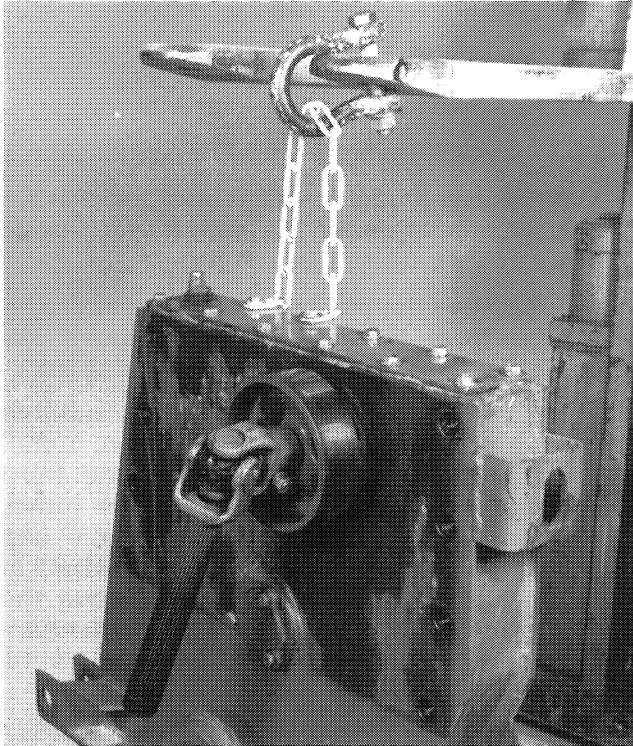

FIGURE 1-3
8. Support the final drive with a suitable lifting device using a short chain. Install the chain using the second and third cover cap screw from the front (outer side) See Figure 1-2. Use 5/16" x 1" cap screws and flat washers. This will help in balancing the final drive. Remove the eight cap screws and hardened washers holding the chain case to the main frame. See Figure 1-3.